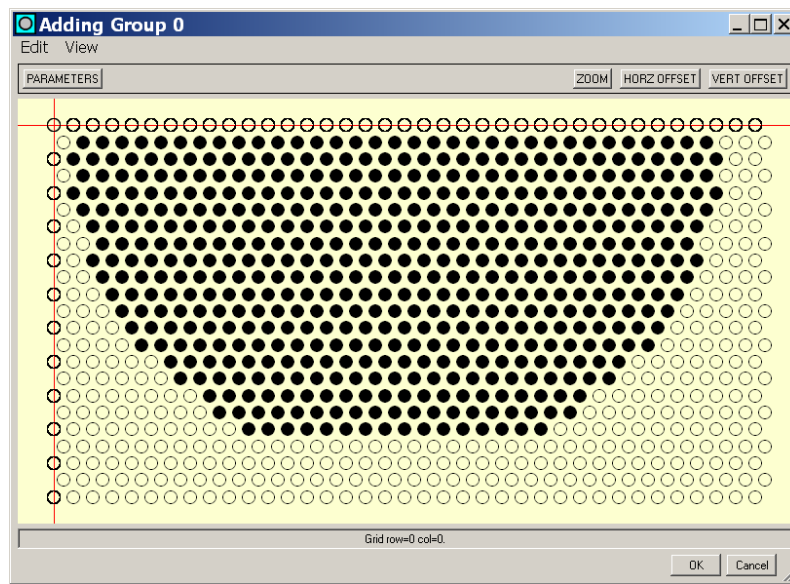

Figure 62. Adding Group Dialog - Section 1
- STEP 10:** The *Adding Group* dialog should now look like the one shown in Figure 62. Click **OK** on the *Adding Group* dialog. *MakeComp* returns to the main screen and displays only the enabled tubes on the building grid.